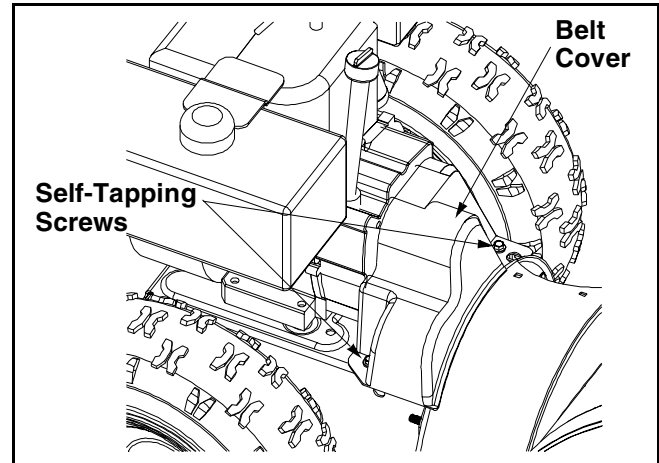

Figure 13
- Remove the plastic belt cover on the front of the engine by removing the two self-tapping screws. See Figure 13.
- Remove six self-tapping screws from the frame cover underneath the snow thrower. See Figure 13 for the location of the hardware.